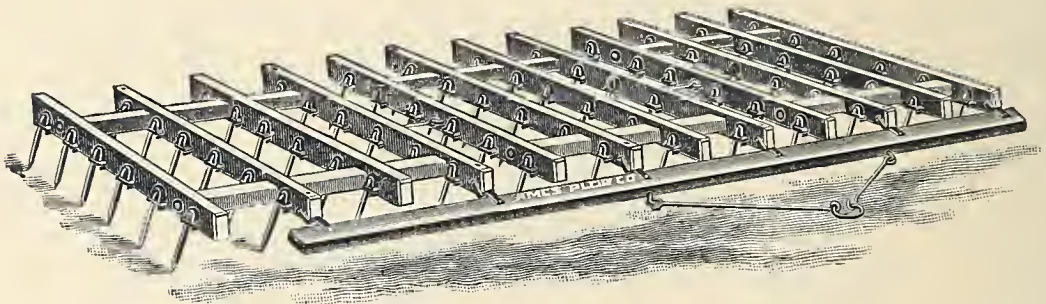

Fig. B 310.—Star Reversible Smoothing Harrow.
*The Star Reversible Smoothing Harrow* is represented by *Fig. B 310*, and in presenting it we can safely say that it is the best Smoothing Harrow in the market. The teeth are reversible; that is, by drawing from one end of the harrow they are perpendicular, and by changing the draft to the other end they are slanting, as